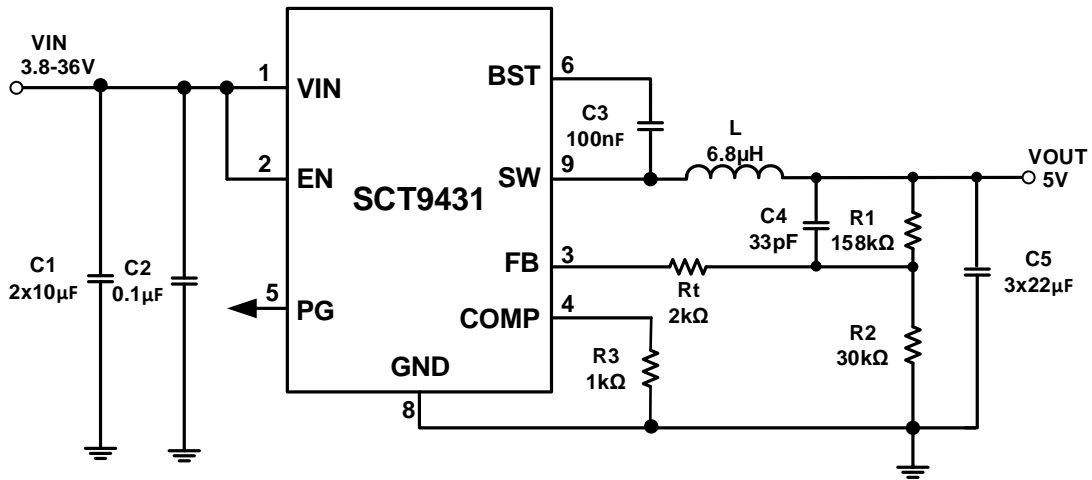

Figure 9. 12V Input, 5V/3A Output with Internal Compensation
The SCT9431 features external programmable output voltage by using a resistor divider network R1 and R2 as shown in the typical application circuit Figure 9. Use equation (11) to calculate the resistor divider values.